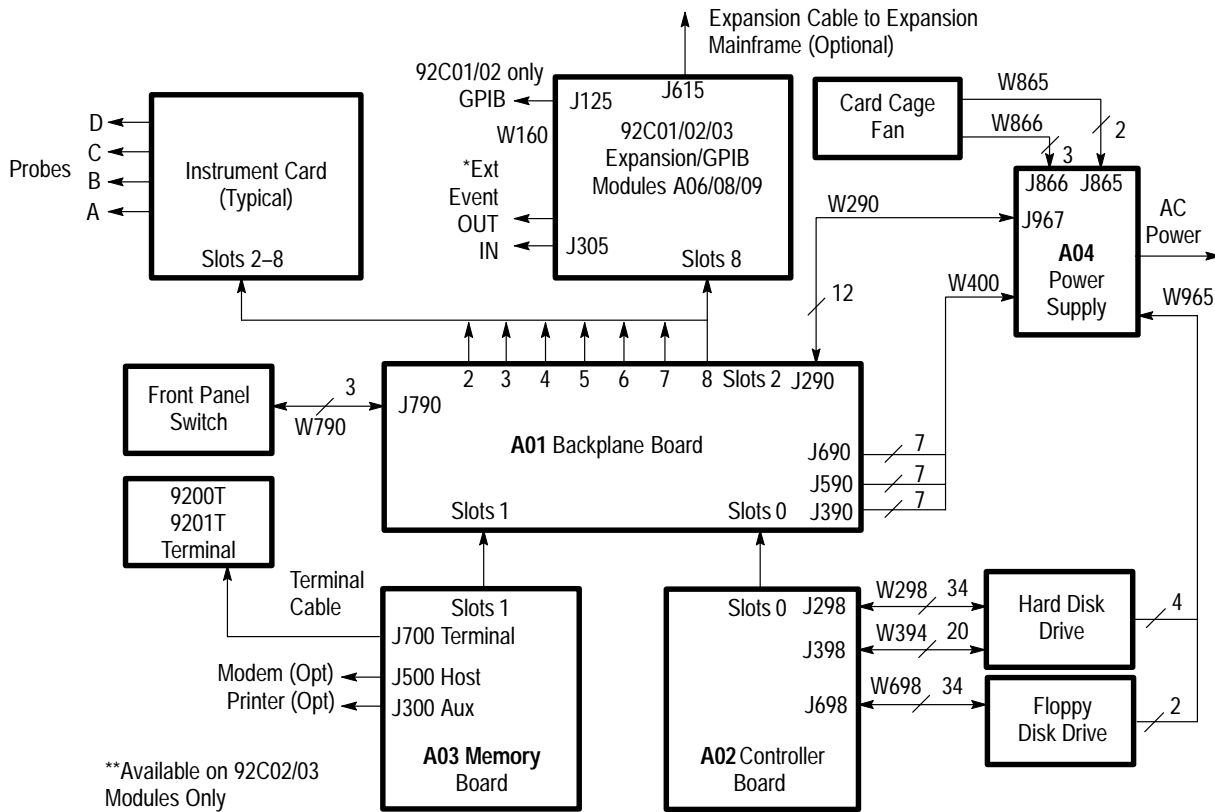

Figure 5-1: DAS 9219/9220 Mainframe Cable Diagram
Power-Supply Bus. The Power-supply bus distributes voltages to all instrument slots on the backplane; other mainframe components receive power through cabling (see Figures 5-1 and 5-2). This bus also carries power-control signals between the Controller board and the power supply; these signals control the powering up/down of the Master mainframe and attached Expansion mainframes.
A media frame inside the Master mainframe houses the hard disk and floppy disk drives; Expansion mainframes do not have disk drives. These drives interface with the Controller board via ribbon cables. Cables from the power supply power the drives (see Figure 5-1 and 5-2 on pages 5-2 and 5-3).
- +3, +5 and ± 17.5 volt supplies for the mainframe components (refer to Figures 5-1 and 5-2 on pages 5-2 and 5-3)